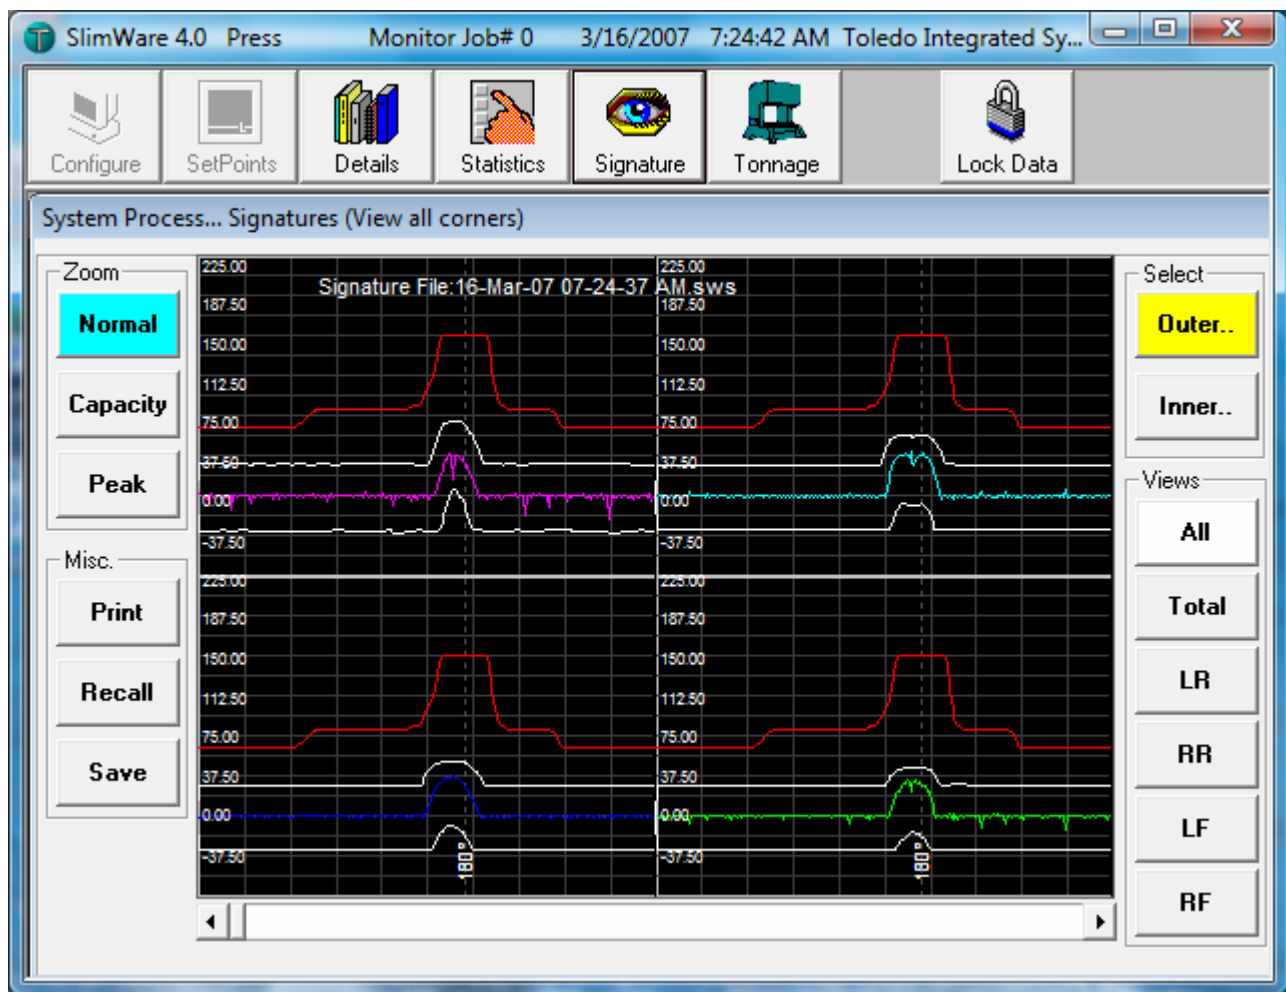

Figure 9.8 - Signature Retrieved From File
- After the signature has been retrieved from the file, the file box will close and the requested signature will be displayed (refer to Figure 9.8). You may now look at other views of the signature by selecting a button within the Select and Views control bars.